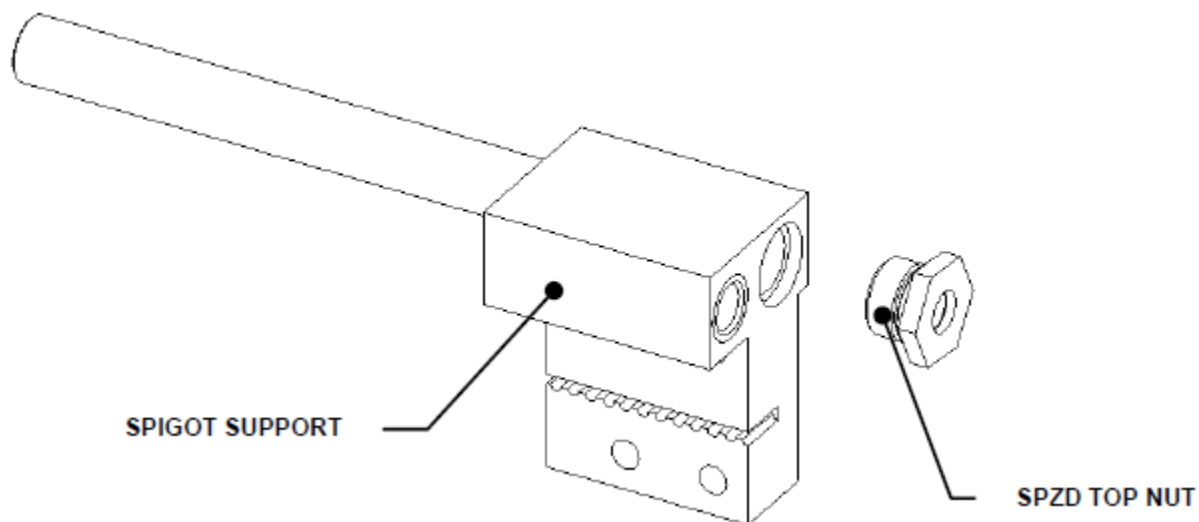

Figure U-36: Placing a Nut on the Spigot Support
1. Place a Top Nut on the Spigot Support as shown in Figure U-36.